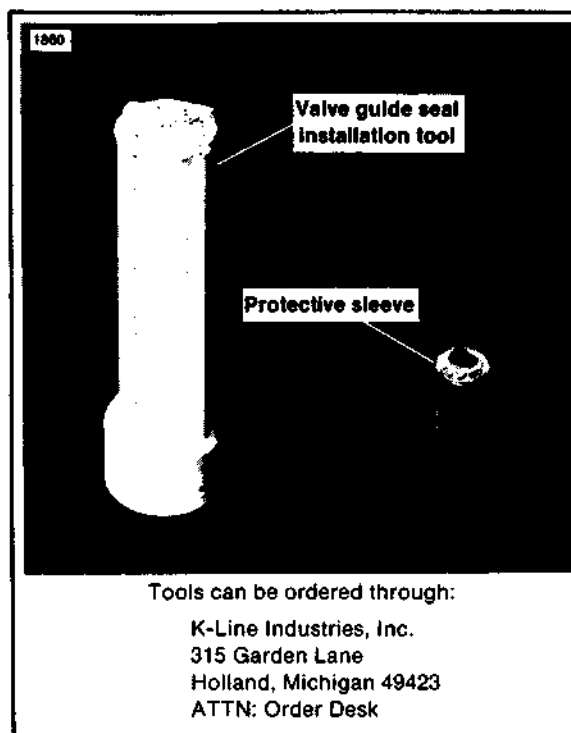

Figure 7. Valve Guide Seal Installation Tool and Protective Sleeve
5. See Figure 7. Position a PROTECTIVE SLEEVE, K-Line Part No. 1403F, over the valve stem so that it completely covers the keeper area of valve stem.
7. See Figure 7. Using VALVE GUIDE SEAL INSTALL-